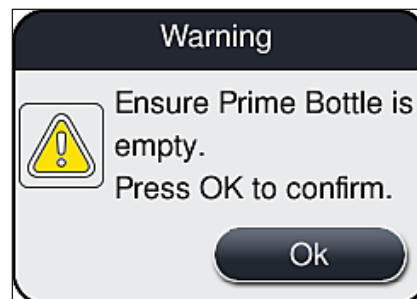

Fig. 100
4. Note the following information messages (→ Fig. 95), (→ Fig. 96) and (→ Fig. 100) and confirm each with **Ok**.